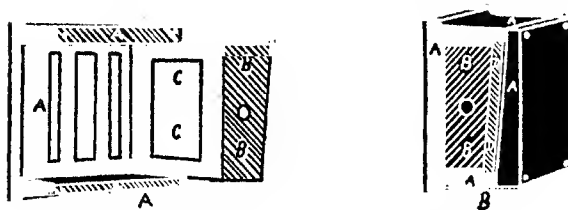

FIG. 77.—NON-LEAK BALANCED VALVE.
**The Non-leak Balanced Valve.**—As will be seen from a study of Fig. 77, this valve is also an improved form of slide valve, being derived closely from the plain D valve. This valve, like the Newton, is also made to be easily attached in the field without going to the expense of having